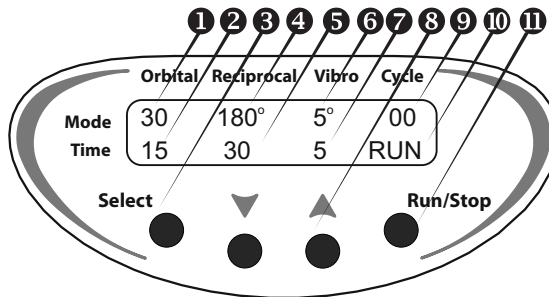

Fig.2. Front panel
- 4.4. Press the **Run/Stop** key (Fig.2/ 8) to start the program.
- 4.5. The platform motion will begin and the corresponding indication (operation mode – RUN (Fig.2/10), cycle countdown (Fig.2/9) and the changing time values) will be shown on the display.
- 4.9. If the number of cycles is not set (cycle number indicator (Fig.2/9) shows zero), pressing
- 4.11.1 Press **Select** key (Fig.2/⑨) to choose the parameter to change (the active parameter is blinking).
- 4.11.2 Use the **▲** and **▼** keys (Fig.2/⑩) to set the necessary value (pressing the key down for more than 2 sec will make the values change quickly).
- 4.11.4 It is necessary to set speed (Fig.2/①), turning angle (Fig.2/②, Fig.2/③), time for each motion type (Fig.2/④, Fig.2/⑤, and Fig.2/⑦) and number of cycle repetitions (Fig.2/⑧).